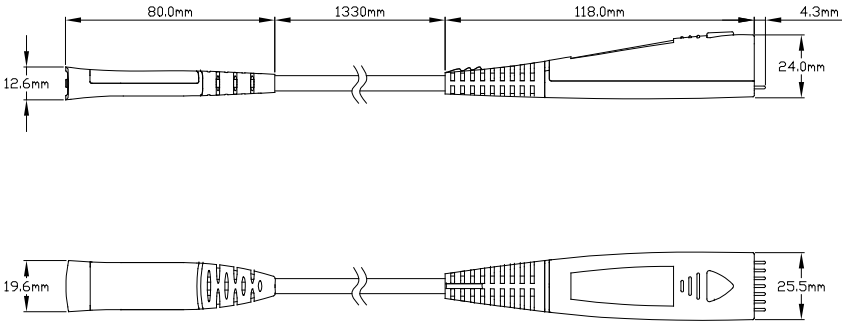

Figure 1 Probe Dimensions
**Figure 1** shows the dimensions of the main parts of PVA7000 series active probe.